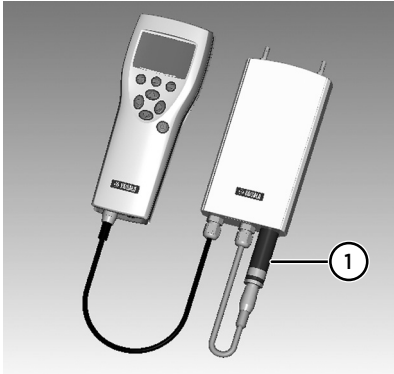

Figure 3 Correct connection of GM70PUMP
5. Insert the probe in the measuring chamber. Note that to have a tight installation, the 2 O-rings on the opening of the measuring chamber should not match together with the filter edge or the tapes on the probe (see Figure 3 \(page 19\)). When operating the pump, especially when taking a sample from hot and humid conditions into room temperature, take care that no condensation forms on the probe.